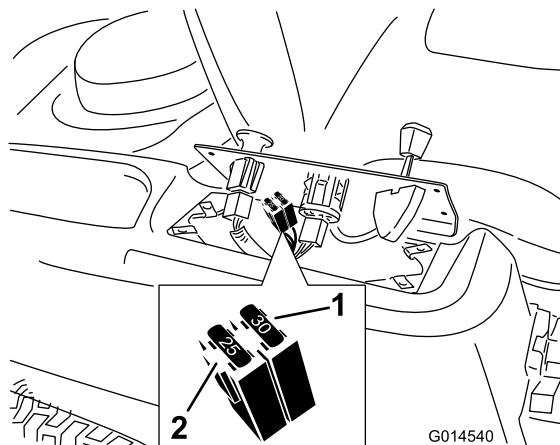

Figure 39
2. Lift the control pane up to access the main wire harness and fuse block (Figure 39).
3. To replace a fuse, pull out on the fuse to remove it (Figure 39).